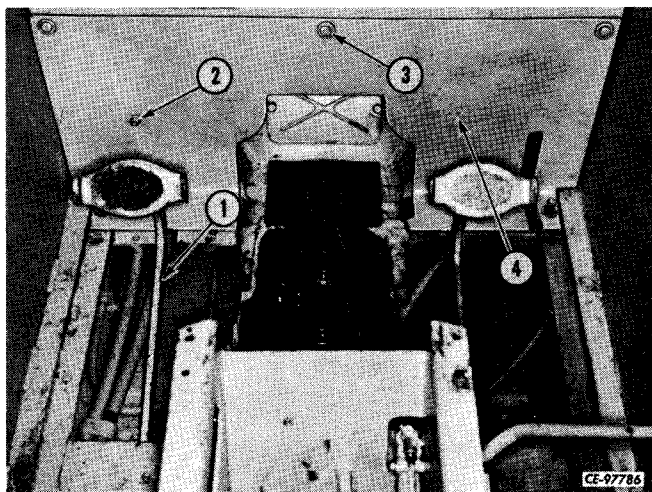

Figure 2-15
Remove front firewall panel (4, Fig. 2-15) by removing cap screws, flat washers and lock washers (3). Remove cap screw, lock washer and nut (2) disconnecting hydraulic hose clamp.
From inside operator's compartment press down on clutch pedal (1, Fig. 2-15) and position fire wall (4) in operator's compartment. Install and tighten cap screws and flat washers (3). Install and tighten cap screw, lock washer and nut (2) securing hydraulic hose clamp to firewall (4).